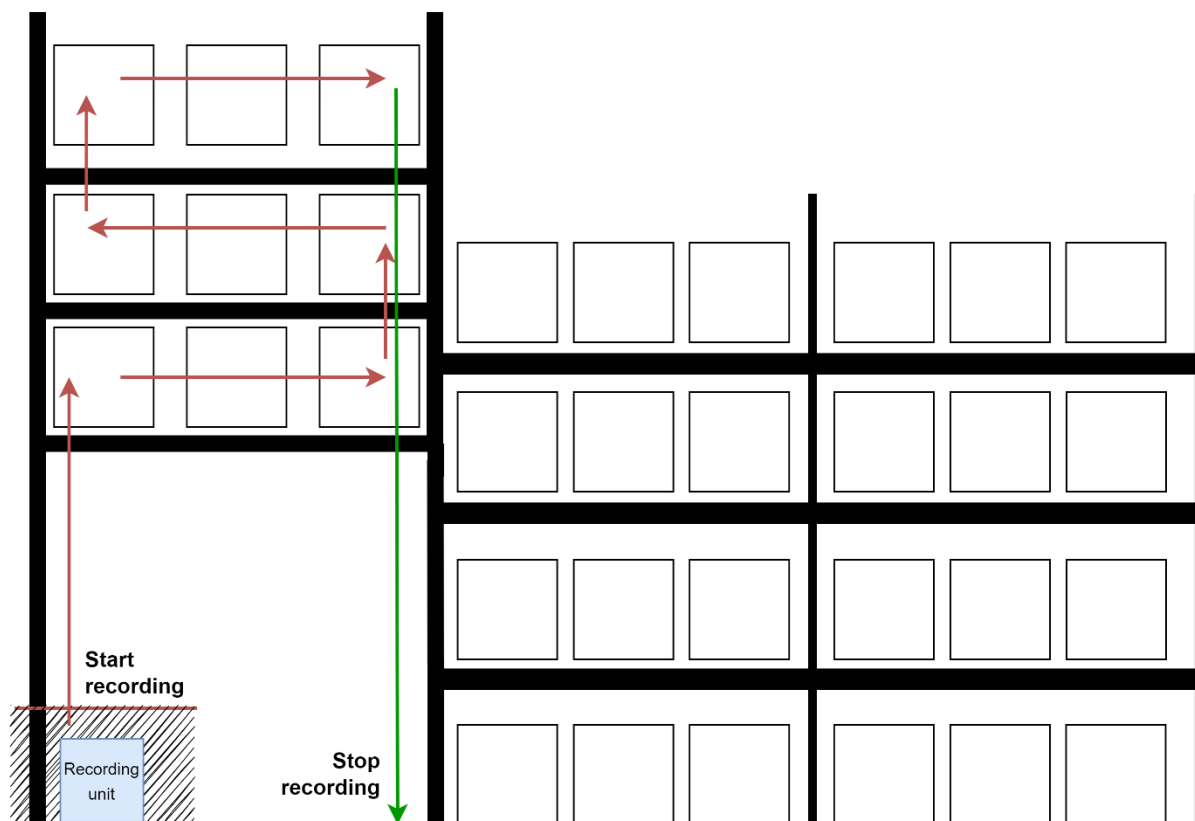

FIGURE 2-17 - ARCHWAY RECORDING
1. Drive to the starting point of the arch as seen in Figure 2-17 - Archway recording.